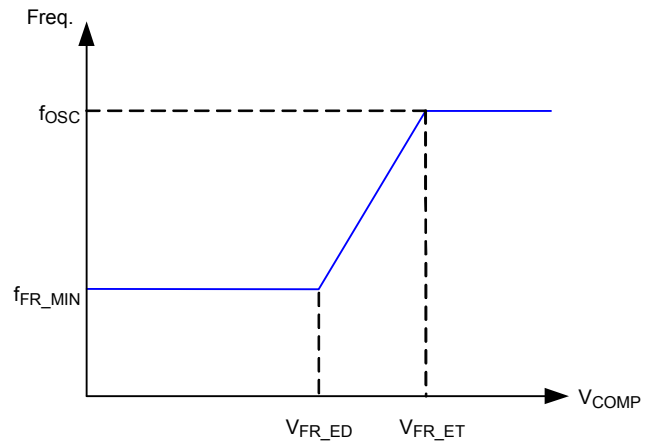

Figure 2. PWM Frequency vs. COMP Voltage
- **Frequency Reduction Mode** : The frequency reduction mode function provides linear switching frequency reduction according to load conditions, as shown in Figure 2. When the feedback voltage of COMP pin is lower than  $V_{FR\_ET}$ , the switching frequency starts to decrease. When the power supply is at light-load and the feedback voltage of COMP pin lower than  $V_{FR\_ED}$ , the switching frequency is clamped at  $f_{FR\_MIN}$ . This frequency reduction mode function reduces power consumption under light-load and no-load conditions, and easily meets even the strictest regulations.